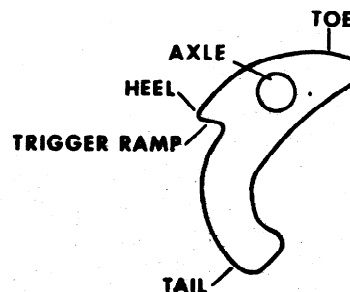

Figure 1. Terminology
- b. Position impulse coupling so that heel of flyweight (see figure 1) is adjacent to stop pin. Reach